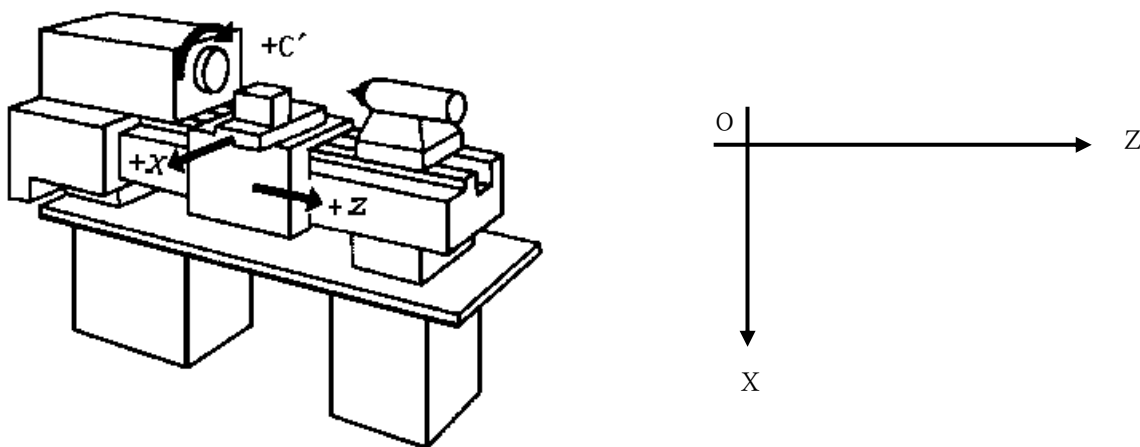

Fig. 1-1 X—Z plane rectangular coordinate system 1 (front toolpost coordinate system)
This system has defined the controlled axis and its motion according to GB/T 19660—2005/ISO 841:2001 **Industrial Automation System and Integration-Numerical Control of Machines-Coordinate System and Motion Nomenclature**. The two coordinate axes are named with X and Z, which are perpendicular each other to form X—Z plane rectangular coordinate system as Fig. 1-1:
The coordinate system in the manual defines X, Z based on Fig. 1-1(front tool post coordinate system). Some commands of G codes must be converse when Fig.1-2(rear tool post coordinate system) defines X, Z:
1) When G02 programming based on Fig.1-1, Fig. 1-2 uses G03 programming; when G03 programming based on Fig.1-1, Fig.1-2 uses G02 programming.
2) When G41 programming based on Fig.1-1, Fig. 1-2 uses G42 programming; when G42 programming based on Fig.1-1, Fig.1-2 uses G41 programming.